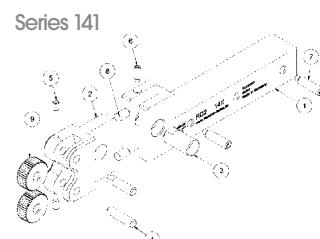
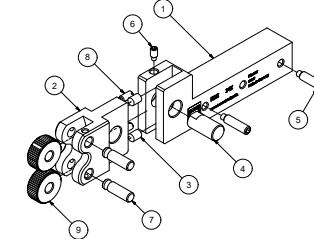

Fig. 1: Series 141 exploded drawing
Fig. 2: Series 141 / click pin exploded drawing
Please specify the tool number and the corresponding position number (see Fig. 1–3).
The centre height is integrated in tool mount and corresponds to the upper shaft edge (Fig. 1, pos. 1; Fig. 2, pos. 1).
Replace the axle pin (Fig. 1, pos. 4; Fig. 2, pos. 7; Fig. 3, pos. 6) or collar stud (Fig. 3, pos. 6) and race (Fig. 3, pos. 4) and ClickPin system (Fig. 2, pos. 8) after a reasonable number of cycles, no later than upon appearance of significant wear or deviating process parameters. Inspect the slot of the knurl holder for wear and widening. An adequate flow of coolant or cutting oil is recommended!